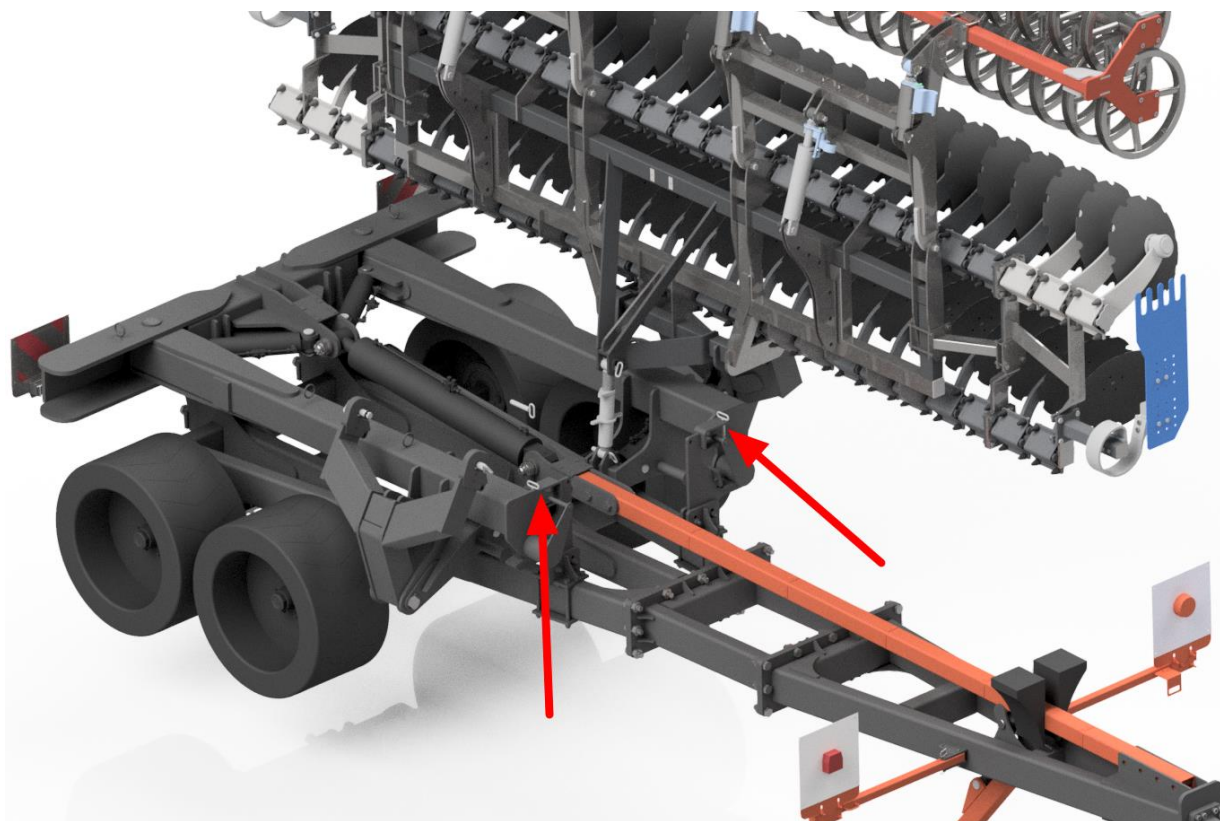

Figure 32 Location of pins preventing the machine wings from unfolding.
2. Pull out the pins securing the machine wings against self-extension from the buffers (fig. 32).